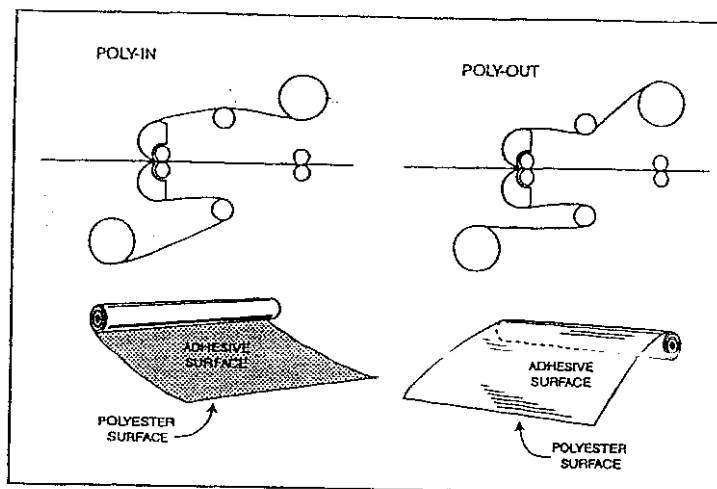

Fig. 8
Refer to Figure 8 for illustrations of properly loaded film. The Discovery Series Laminator use Poly-In and Poly-Out films. Poly-In means the adhesive side of the film is on the inside of the roll (Figure 8). Poly-Out means the adhesive side is rolled on the outside of the roll. The shiny side of clear film must contact the heat shoes with the dull side (adhesive side) facing out. Use extreme caution when loading delustered (matte) film as both sides appear dull.
The following procedure uses a film threading card. It is recommended the laminator be cool to the touch before proceeding, however you may perform this procedure when the unit is hot. Refer to Figure 8 for the proper threading diagrams for Poly-In and Poly-Out films.
8. Unroll 2 ft. (61 cm) of film. Push the leading edge under and around bottom idler bar. Slide the idler bar back into place and install the bottom film supply shaft by inserting the right end of the shaft into the brake hub and the lateral adjuster into its cradle. The roll pins of the adjuster must face out. Drape the film over the bottom roll of film, (Figure 8).
9. Remove the top film supply roll from laminator. Repeat steps 6, 7 and 8 from above, refer to Figure 8 for proper loading of film.
10. Unroll 2 ft. (61 cm) of film. Drape the film over the top and bottom heat shoes, (Figure 8).